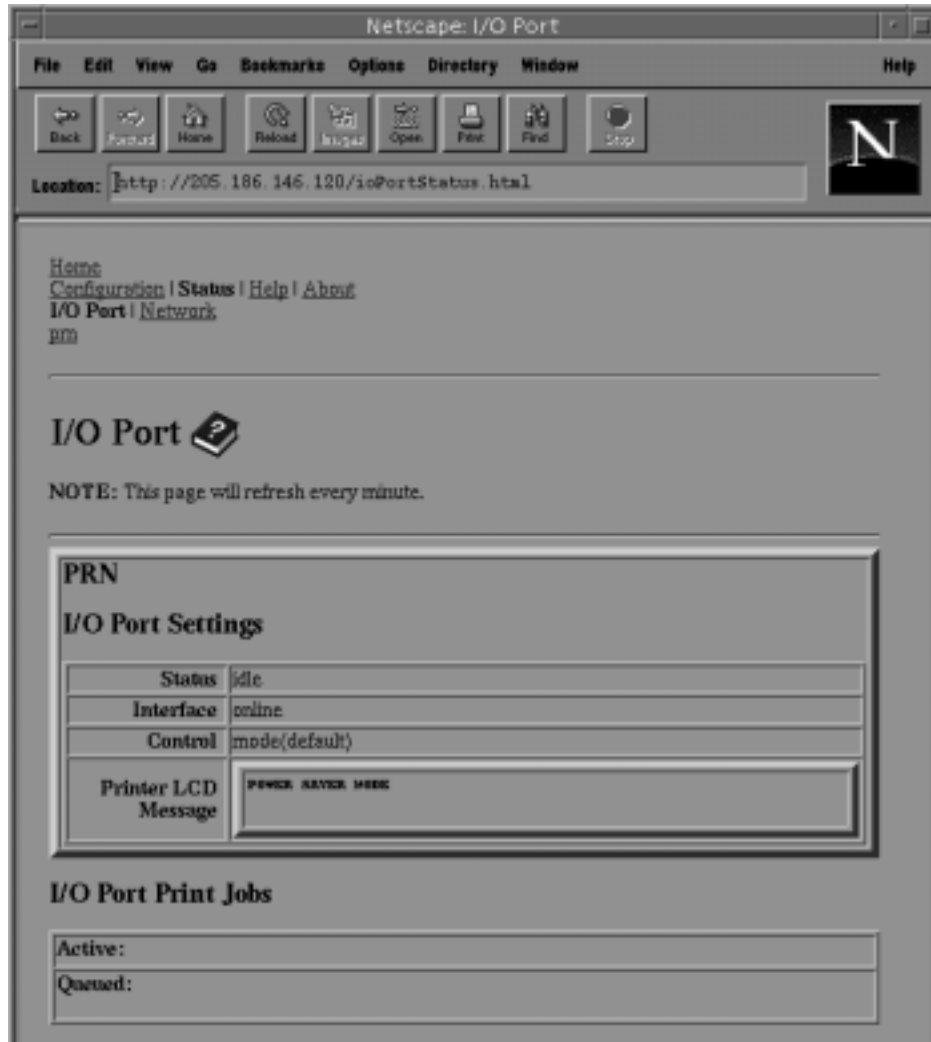

Figure 11. WWW Printer Status Screen
3. Direct your Web browser to the Uniform Resource Locator (URL) **http://IPaddress** (e.g., **http://192.75.11.9**). You will be able to determine the exact state of the printer from the printer status screen, as the shown in Figure 11.